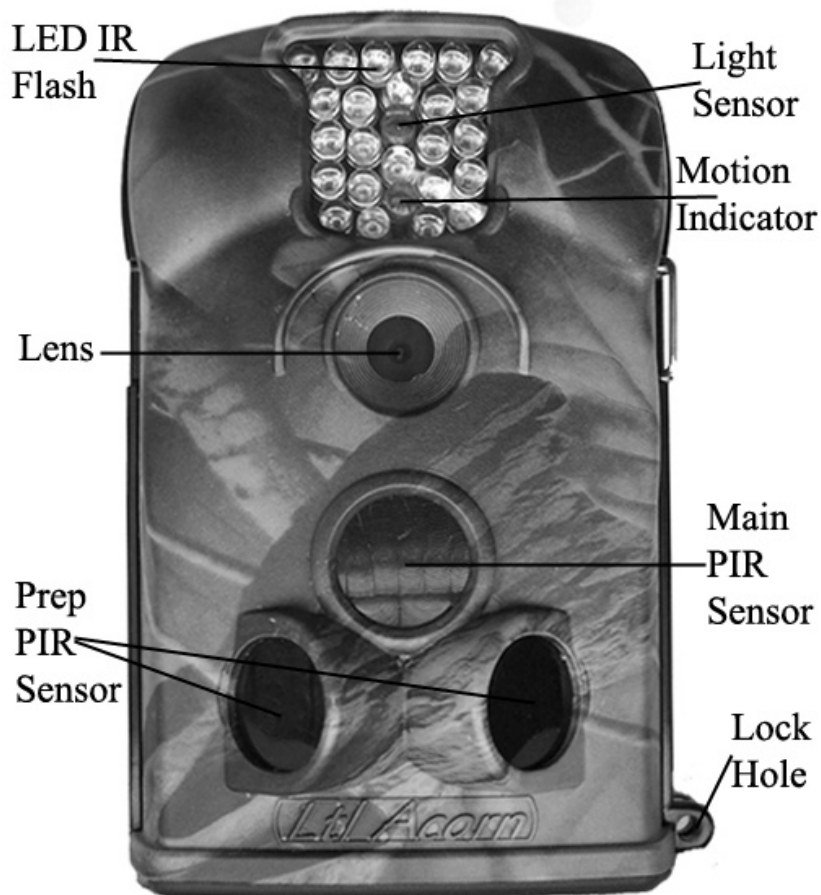

Figure 1.1: Front View of Ltl-5210M
- Figure 1.1 shows the front view of the camera (Part # Ltl-5210M)